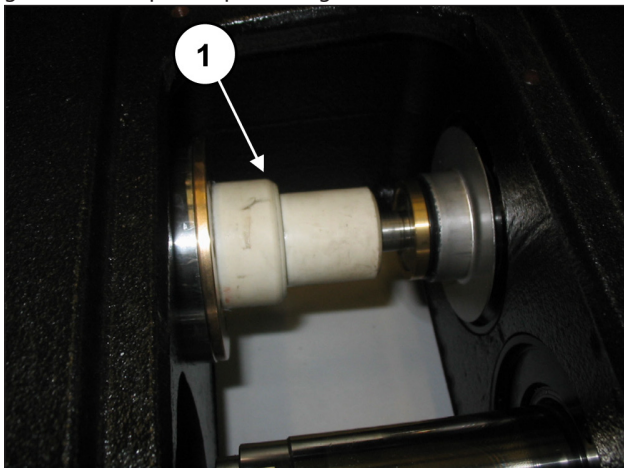

Fig. 141
Manually turn the shaft in such a way to bring the 3 pistons to the top dead centre position. Insert the buffering tool code 27516600 between the piston guide and the piston (pos. ①, Fig. 141).